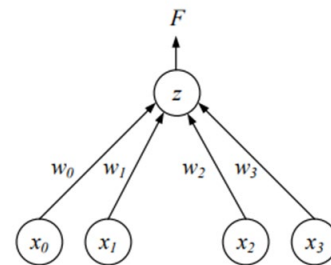

Figure 1. The network structure of an integrate-and-
- **Integrate:** This neuron (z) first integrates the input from other 4 neurons (x_0 to x_3). Each input, x_i , is a 4-bit binary data. There are 4 synapses (w_0 to w_3) connecting x_i with z , respectively. Each w_i is a 1-bit binary data (i.e., w_i is either 0 or 1). Figure 1 illustrates the network structure, i.e., z performs the weighted sum of x_i :